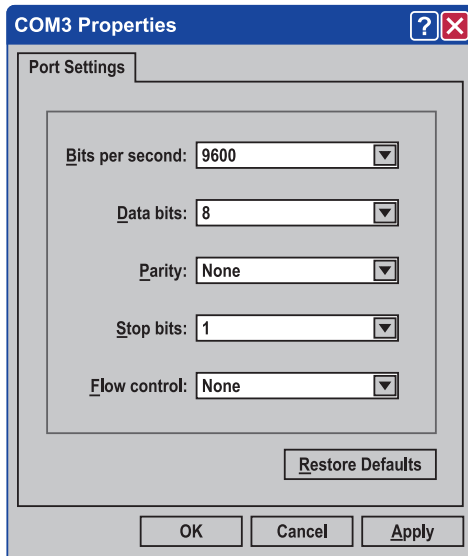

Figure A-2. COM3 properties tab.
- Click the “Settings” button to open the COM Properties menu. Change your parameters to 9600 bits per second, 8 data bits, no parity, 1 stop bit, and no flow control, as pictured in Figure A-2.